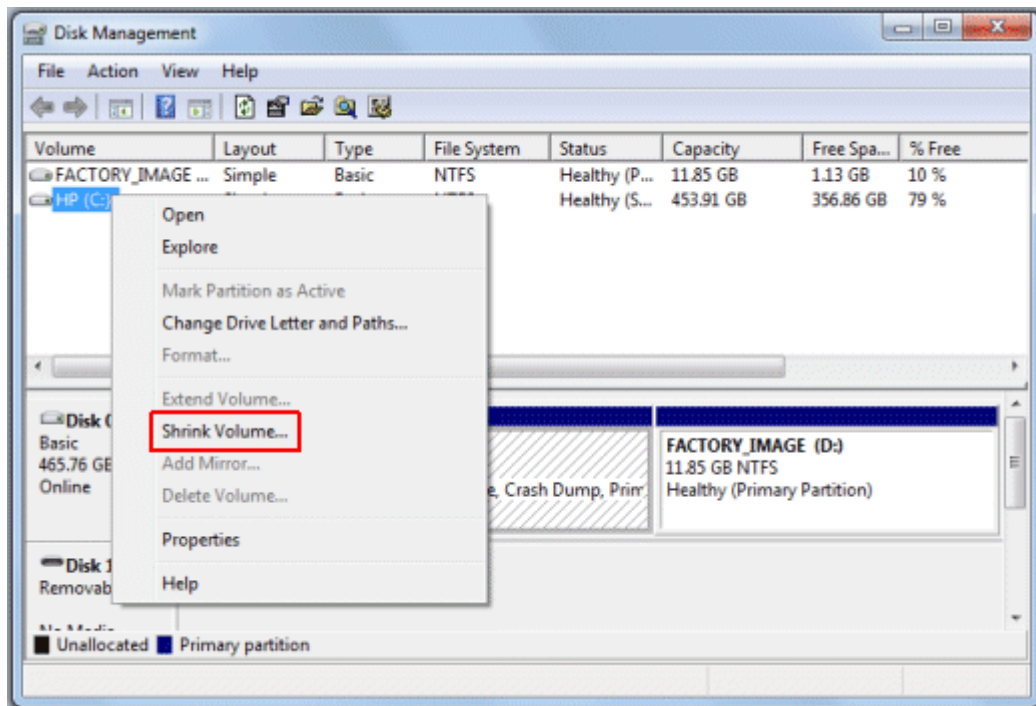

Figure 4.16 : Shrink Volume
2. To create unallocated space on the drive, right-click the drive you want to partition. For most applications, select the C: drive. Then click Shrink Volume..It is shown in Figure 4.16